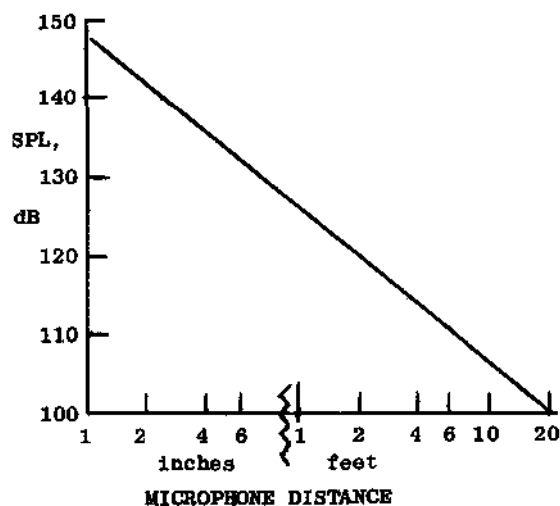

Fig. 3. The inverse square law
The rated sensitivity of the 814 is -68 dBV at $1 \mu\text{bar}$, or -48 dBV at $10 \mu\text{bars}$, about 6 dB higher than a typical dynamic. Therefore the Advent MPR-1 mike preamp will overload with the 814 on peaks of about 118 dB SPL (see Part I). This is similar to the level at which the 814's own FET overloads, and is ample for the general concert recording that I do (including large orchestras and choruses). Of course if you plan to do very close-up miking, you would need to use the 814C, which has about 2 dB more sensitivity and can be used up to about 140 dB SPL. But to use this dynamic range you would have to either (1) use a 20-dB attenuator to knock the level down so that a normal preamp like the Advent MPR-1 can handle it, or (2) use a preamp with an extremely high input capacity, or (3) bypass the mike preamp altogether (at 140 dB the 814C puts out a full volt, more than enough to drive a recorder's line inputs directly). When considering mike and preamp overload levels, it is wise to keep in mind the inverse-square law of distances. The sound intensity from a source goes up very fast as you come close to it. For example, Fig. 3 indicates the variation of level versus distance for a source producing 100 dB at